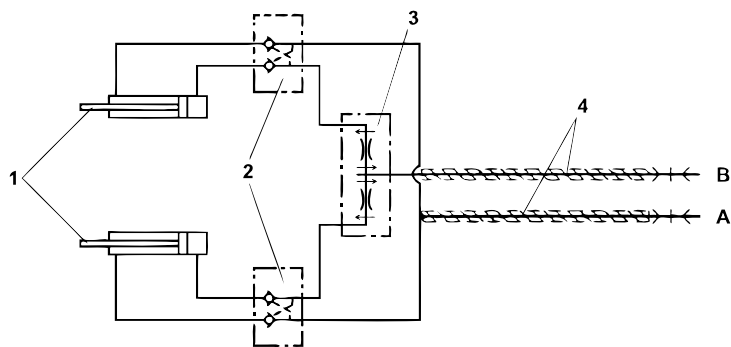

Fig.10
4.5 ROLLER HYDRAULIC SYSTEM (Fig. 10)
The two cylinders (1 Fig. 10), have an automatic release valve (2 Fig. 10).
KEY to Fig. 10 (Hydraulic layout showing roller adjustment with two hydraulic cylinders)